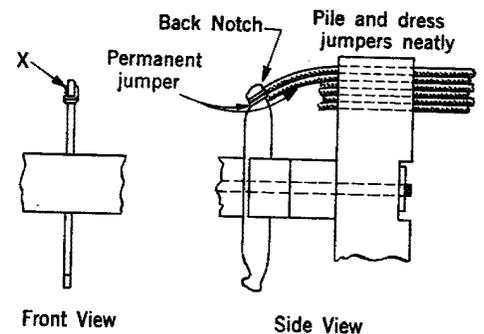

Fig. 20
12.08 Connect the temporary jumper as shown in Fig. 20. Bring the wire along the top of the permanent jumper, through the notch